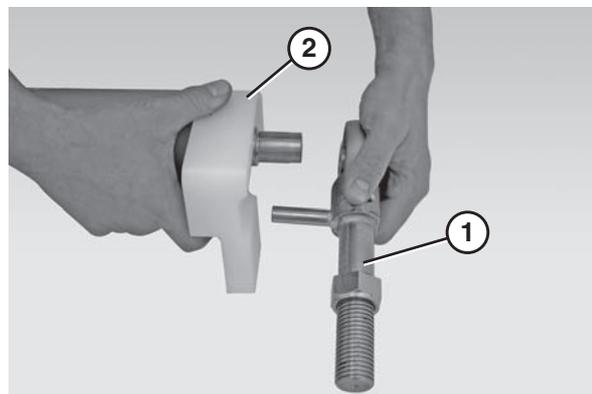

Figure 68
5. Remove the bearing shafts (**Figure 68, item 1**) and both pinch guards (**Figure 68, item 2**).